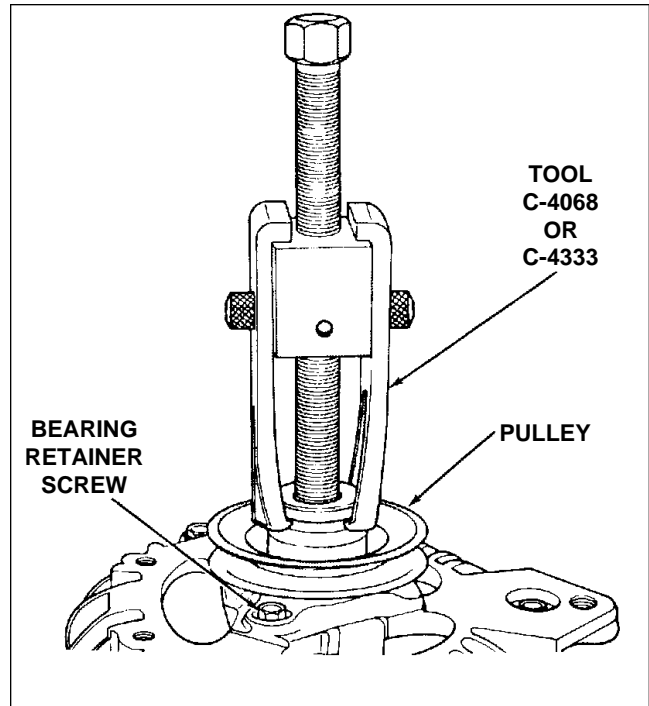

Figure 24-27. Removal of Chrysler Alternator Pulley
- a. Remove pulley with tool C-4068. (Refer to Figure 24-27.)